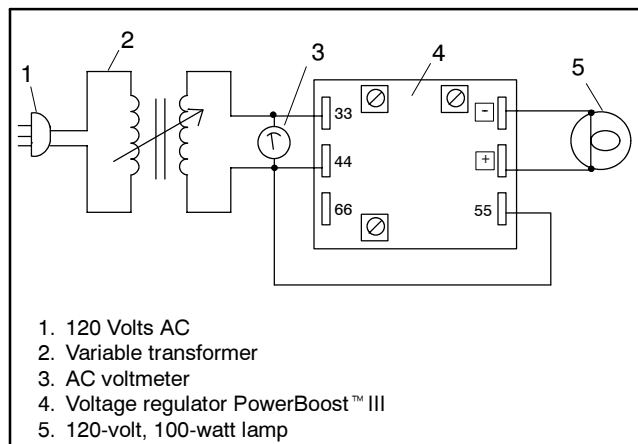
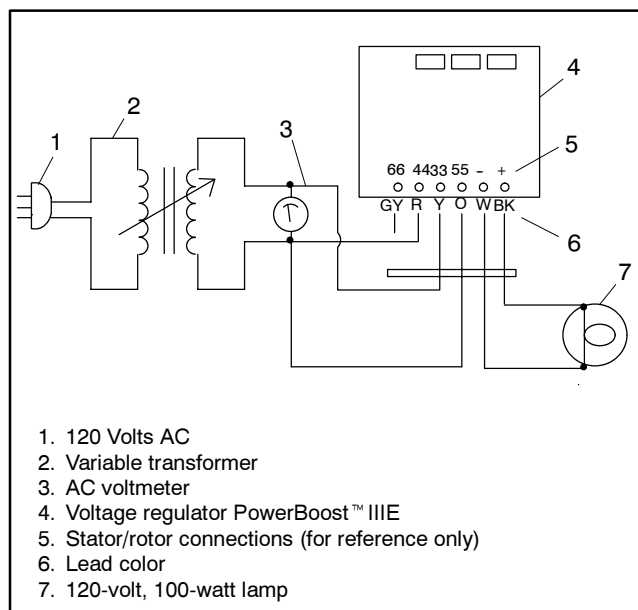

Figure 5-15 PowerBoost™ III Voltage Regulator Test
Figure 5-16 PowerBoost™ IIIE Voltage Regulator Test
1. Connect components as shown in Figure 5-15 or Figure 5-16.